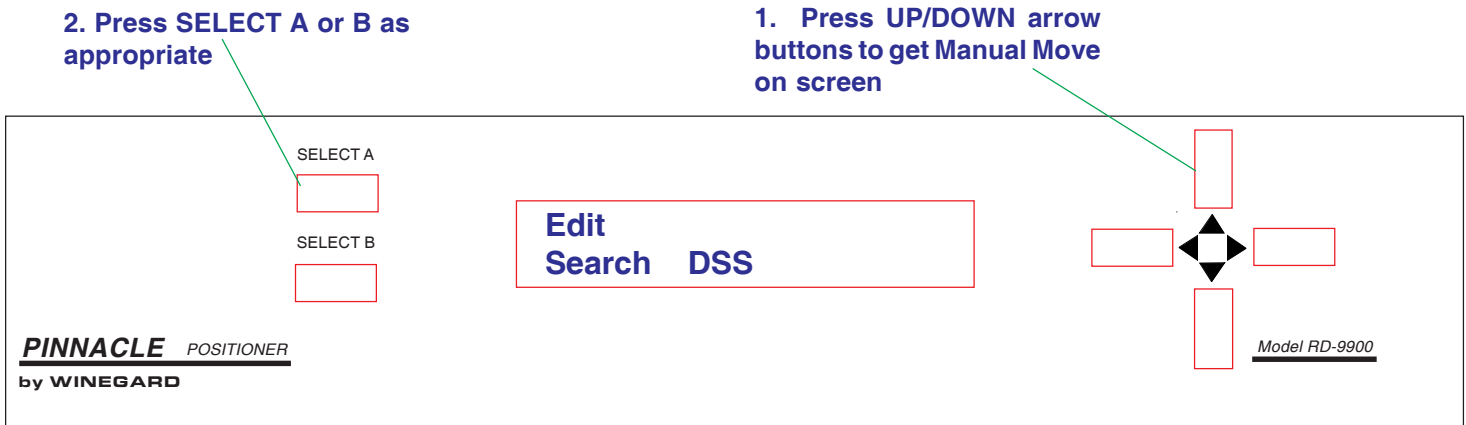

Figure 29
1. Press **[UP/DOWN]** arrow until **Edit** is displayed on positioner. See Figure 29.
2. Press **[SELECT A or B]** Edit, see Figure 29.